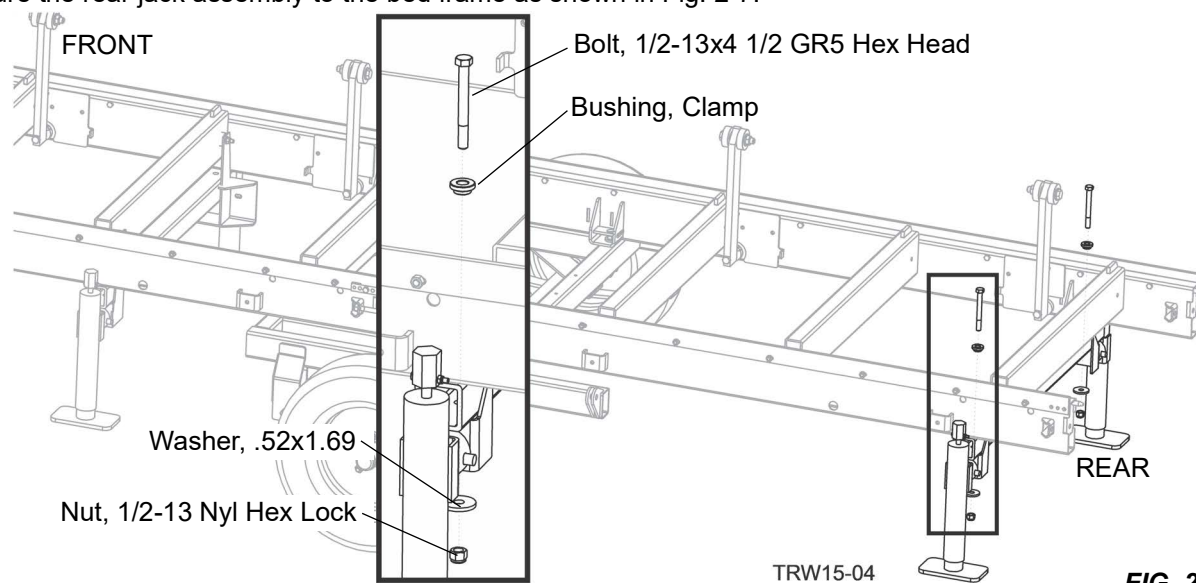

FIG. 2-7
10. Secure the rear jack assembly to the bed frame as shown in Fig. 2-7.